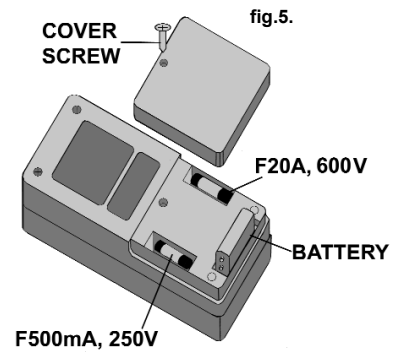

fig.5.
- 4.13.3. Open the battery door by loosening the screw using a Phillip's screwdriver (fig.5).